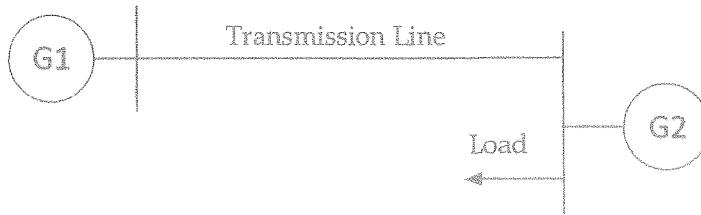

Figure Q4
- b) Consider the two generator system shown in Figure Q4. Both generators are thermal units and have the same fuel cost function given as